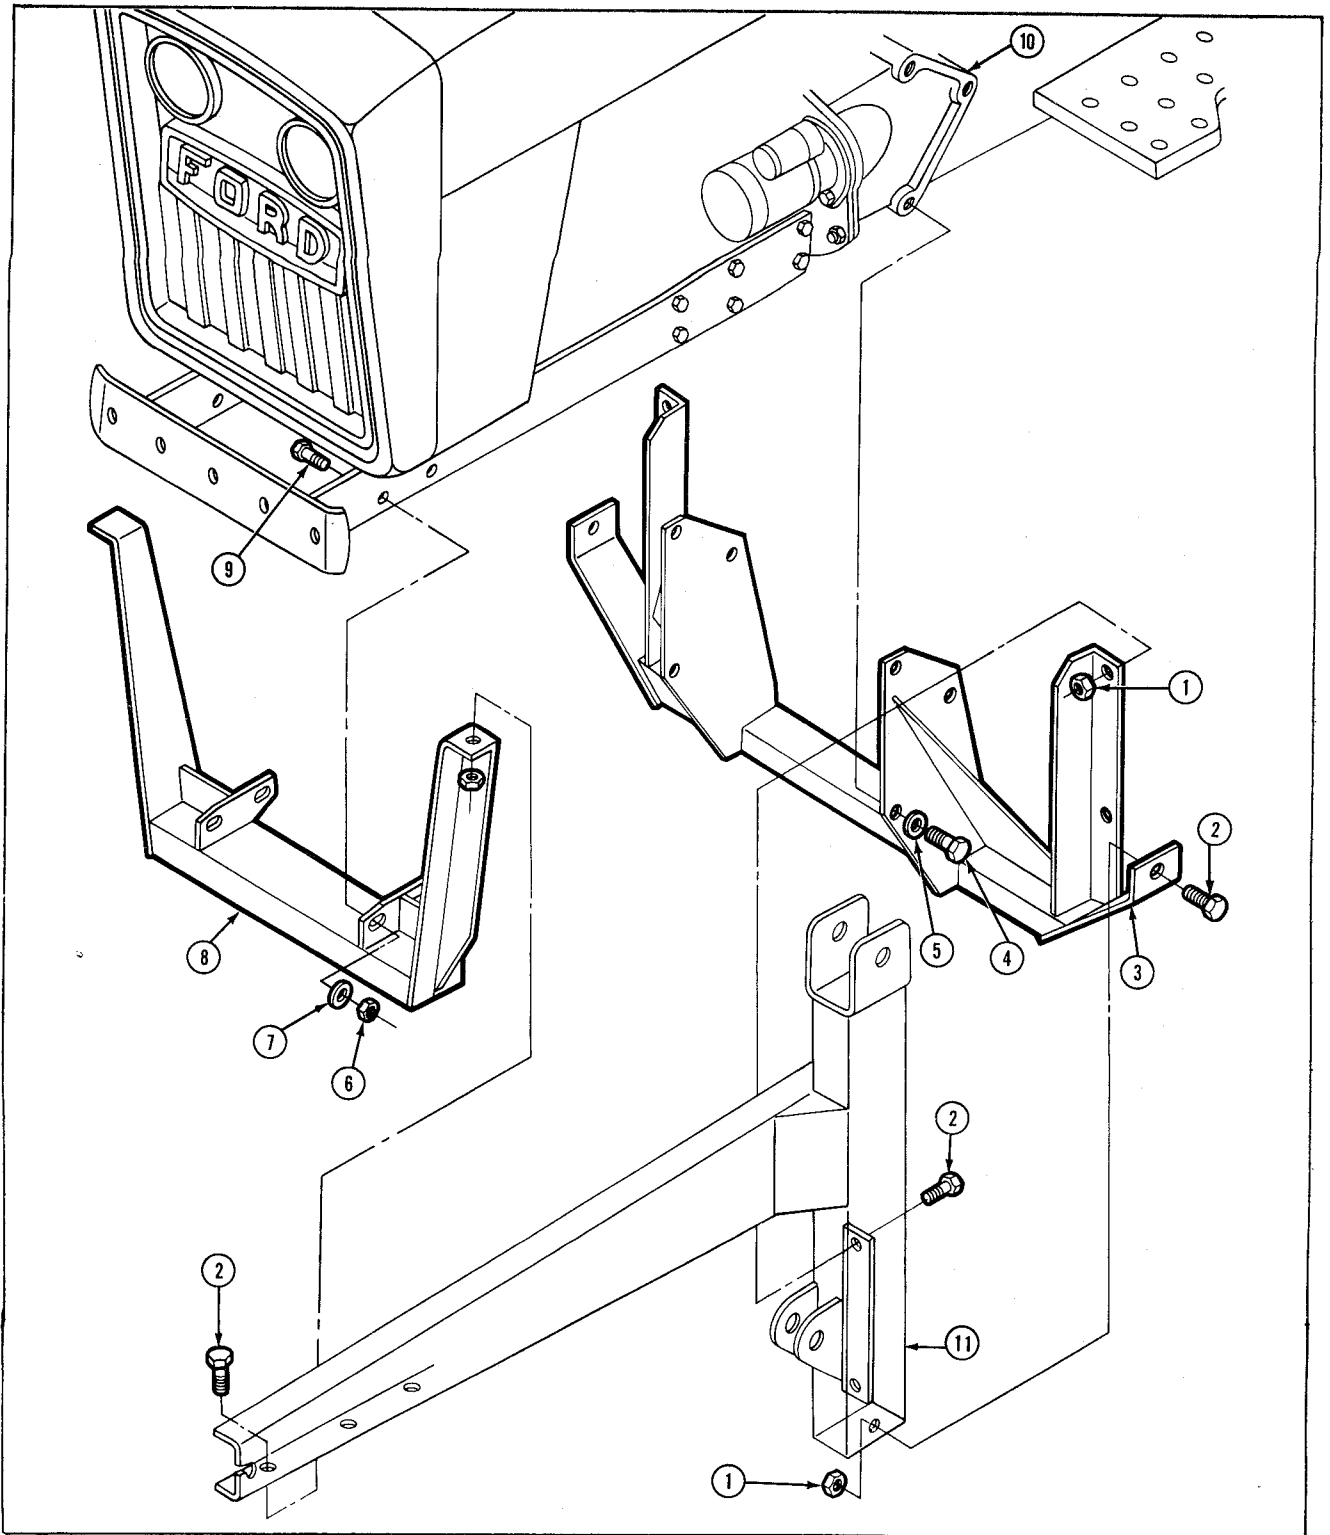

Figure 2
1. Attach front mounting bracket (8), Figure 2, to each side of the tractor frame with four cap screws (9), flat washers (7) and lock nuts (6).
2. Attach frame support bracket (3), Figure 2, to the mounting pads (10) on each side of the tractor transmission case. Use six metric cap screws (4) and lock washer (5).
3. Attach each loader side frame (11) to the frame support bracket and front mounting bracket with four cap screws (2) and lock nuts (1). See Figure 2.